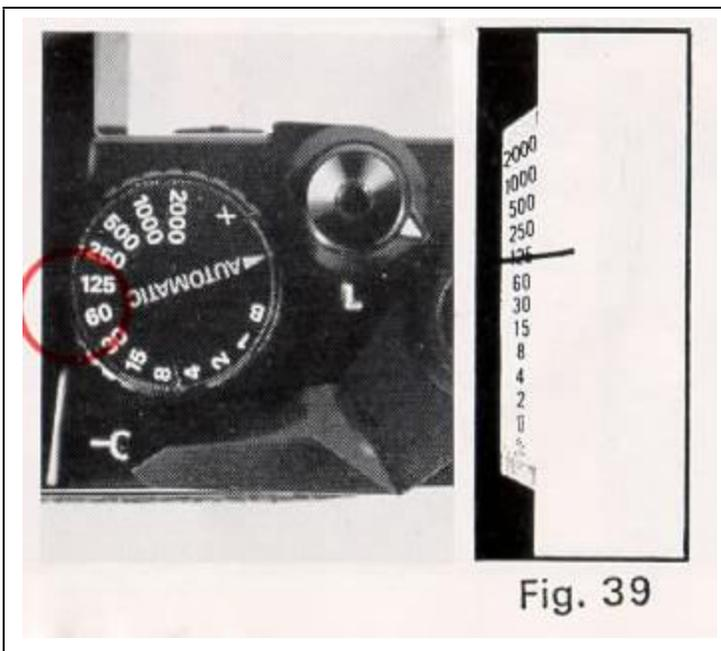

Fig. 37
- (3) red index 1 x correct exposure
- (4) white index 1/3 under exposure
- (5) white index 2/3 under exposure (**Fig. 37**)